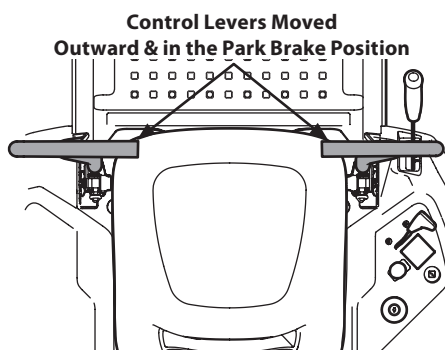

Figure 25
1. Operator should be sitting in the tractor seat with the lapbar drive control levers fully out and in the park position. See Figure 25. Refer to Practice Operation for further instructions.